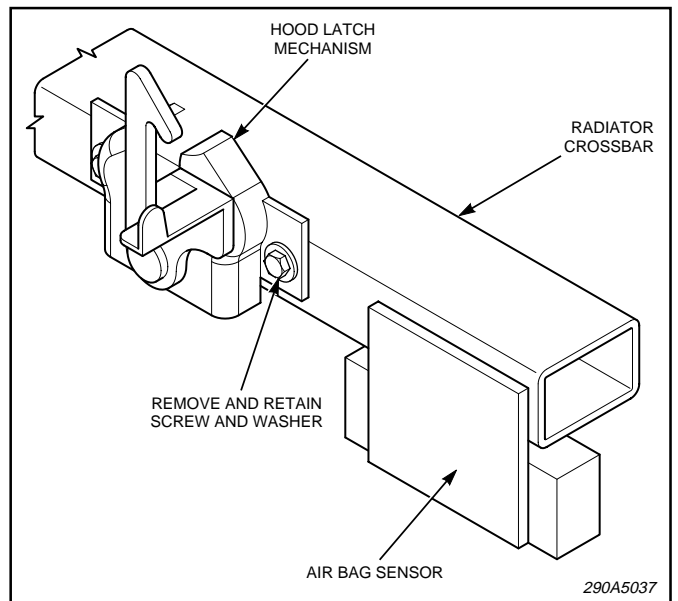

Figure 2.
- a. Remove and retain the existing bolt and washer on the right (driver) side of the hood latch mechanism. See figure 2.